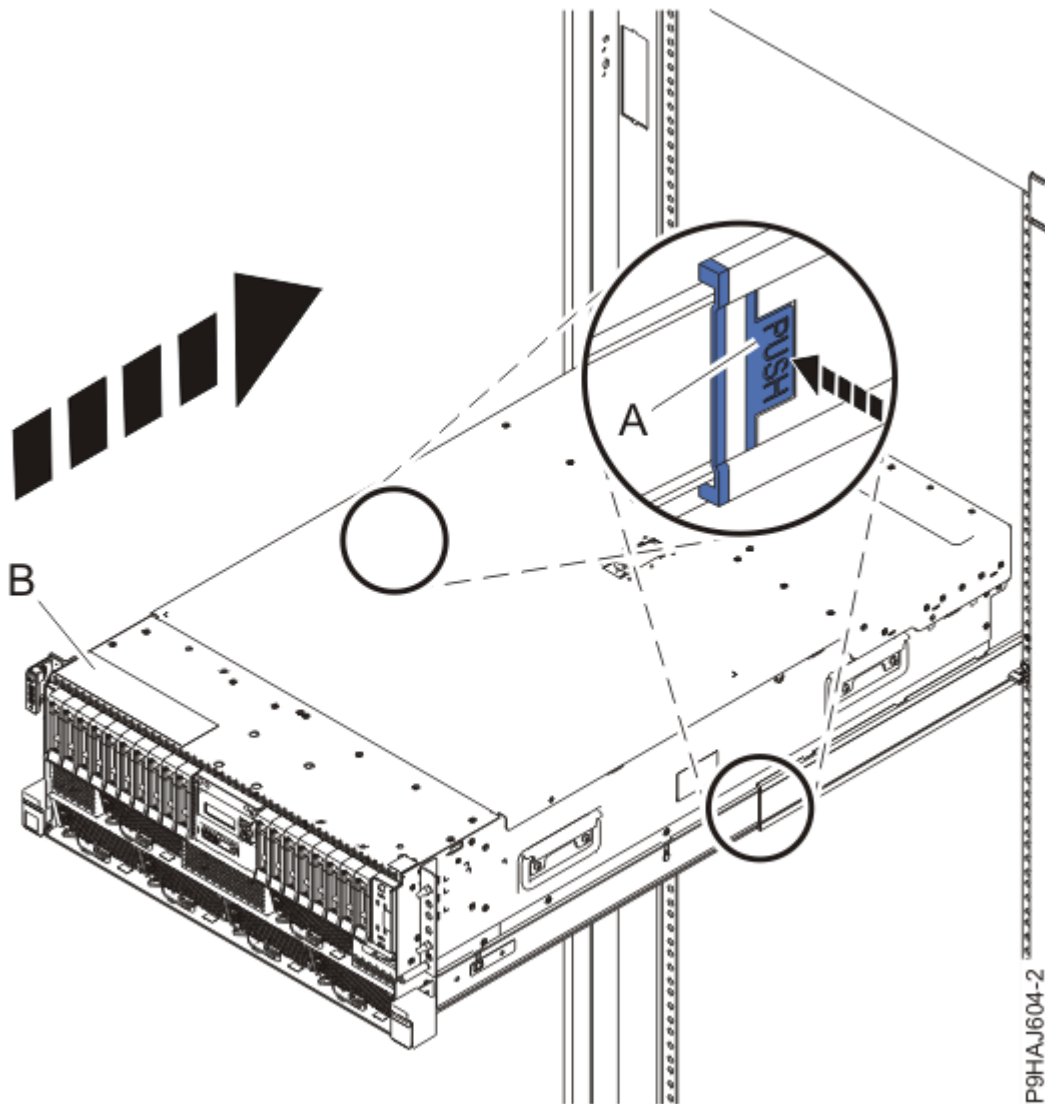

Figure 17. Placing the system into the operating position
3. For a rack-mounted system, unlock the blue rail safety latches (**A**) as shown in Figure 17 on page 23 by pushing them inward.